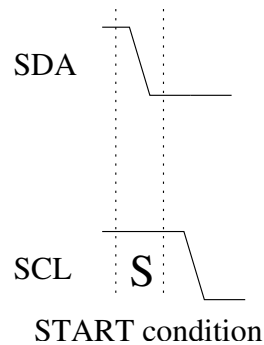

Figure 3.9: START condition (S).
The START condition (S) is shown in Figure 3.9. It is characterized by a falling edge on the SDA line during a high level of the SCL line. Note that only the START and STOP conditions change the level of SDA during a high state of SCL. All normal data transmission including acknowledgements change the level during the low state of SCL.